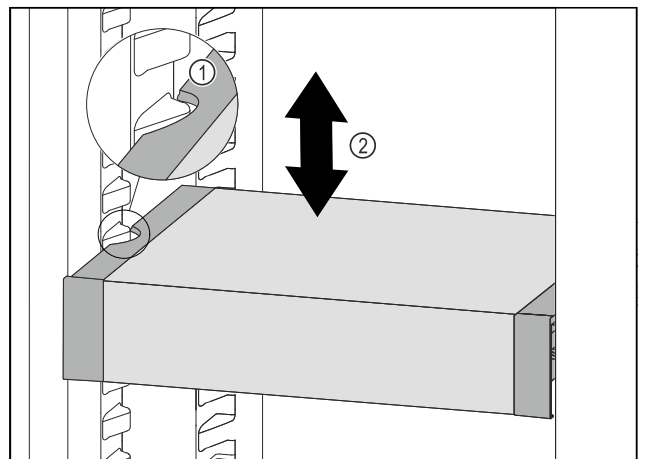

Fig. 90
- Pull VarioSafe forwards until the recesses in the side of the VarioSafe are at the level of the support rib in the refrigerator compartment. Fig. 90 (1)
- Move VarioSafe up or down in the refrigerator compartment until the desired height is reached. Fig. 90 (2)